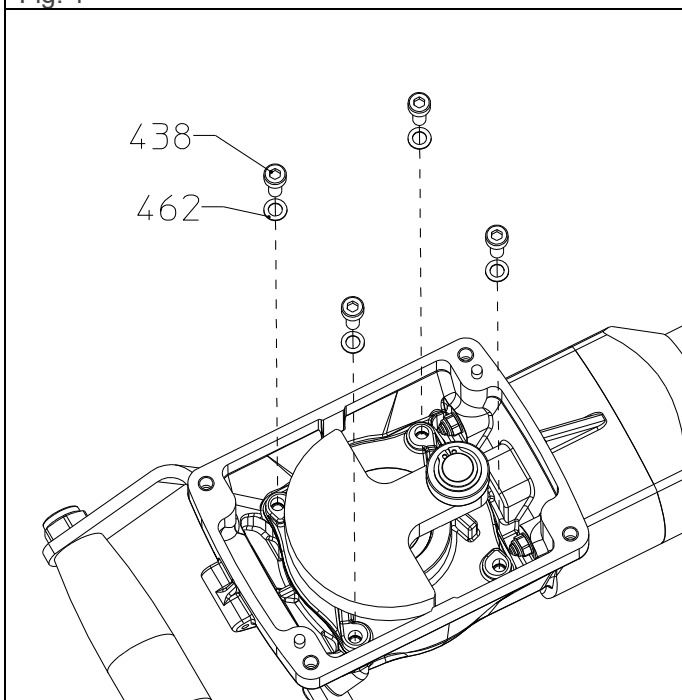

Fig. 3
Remove the 4x socket head screw item 438 with 4x locking washer item 462 (see fig. 3) and pull the crankshaft item 402 with the items 404, 405, 414, 418, 420, 421, 432, 438, 448, 453, 454, 462, 465 and 466 out of the gearbox housing, assy. item 401 (see fig. 4).